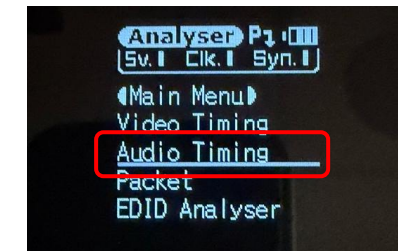

Figure 2
3. Scroll down to Audio Timing and press Enter. (figure 2)